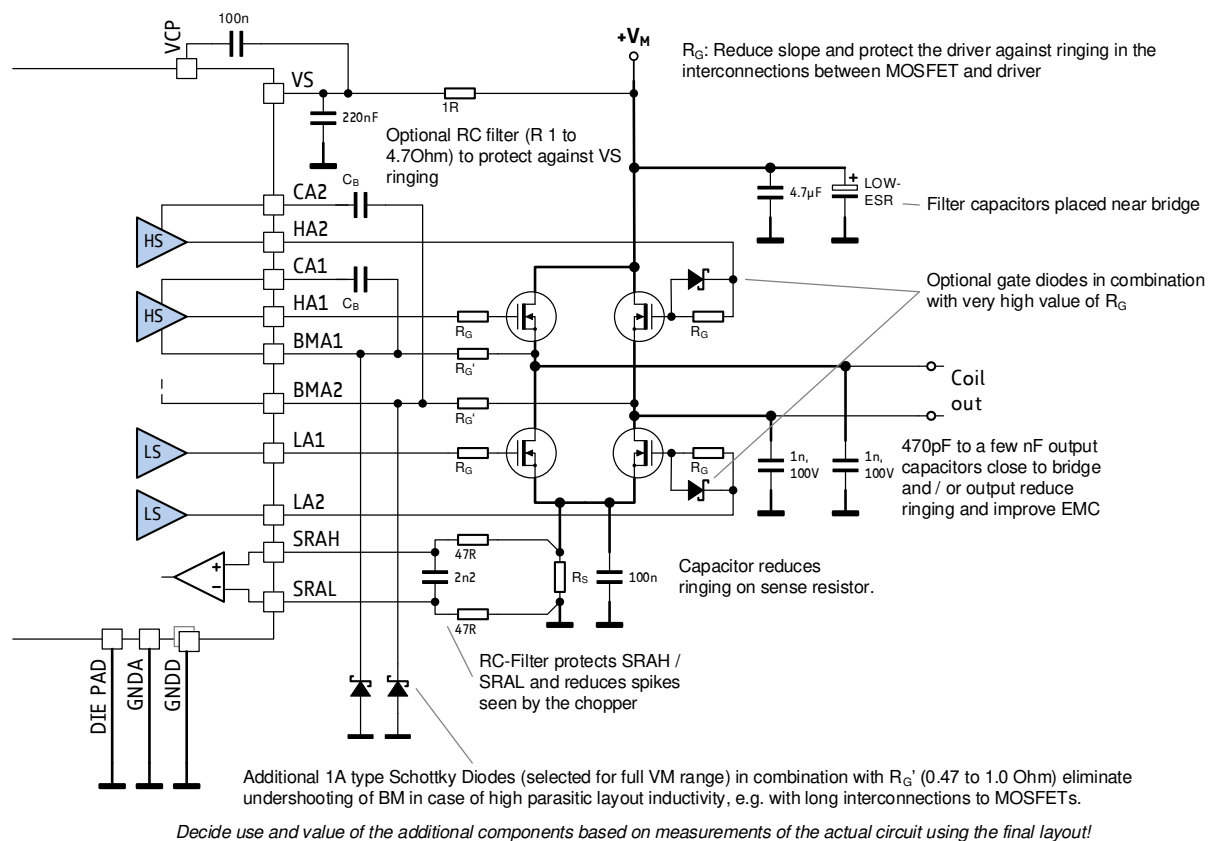
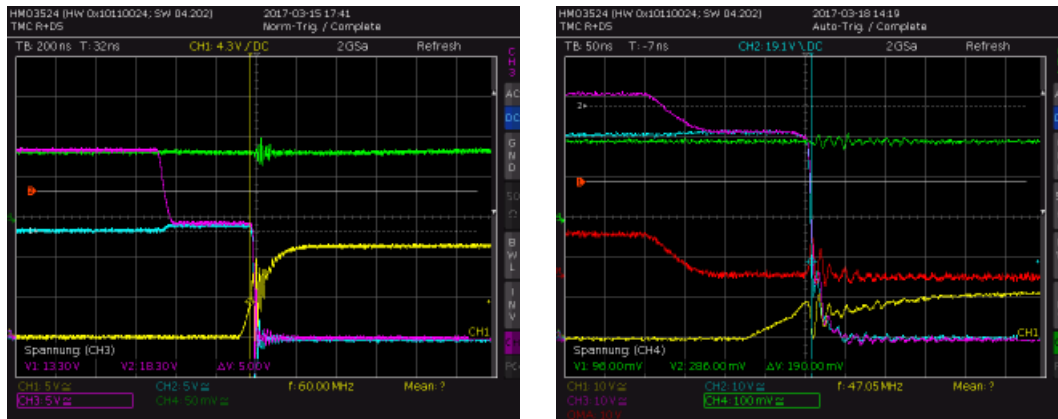
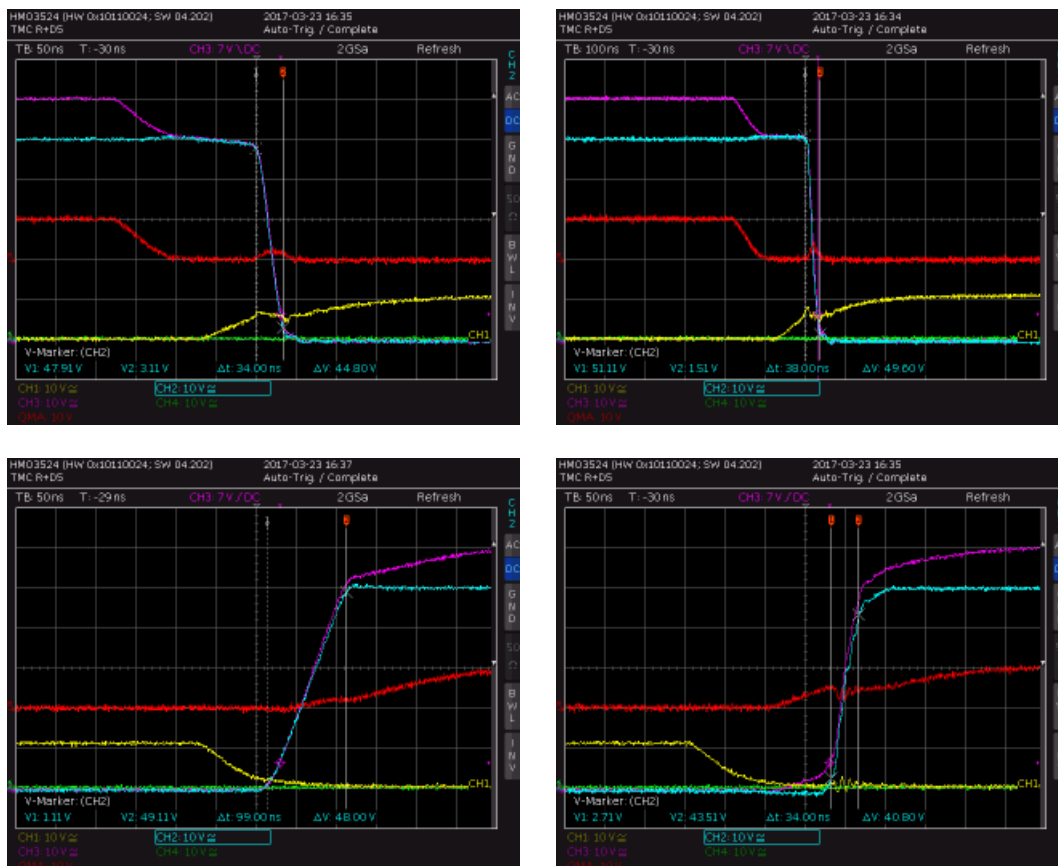
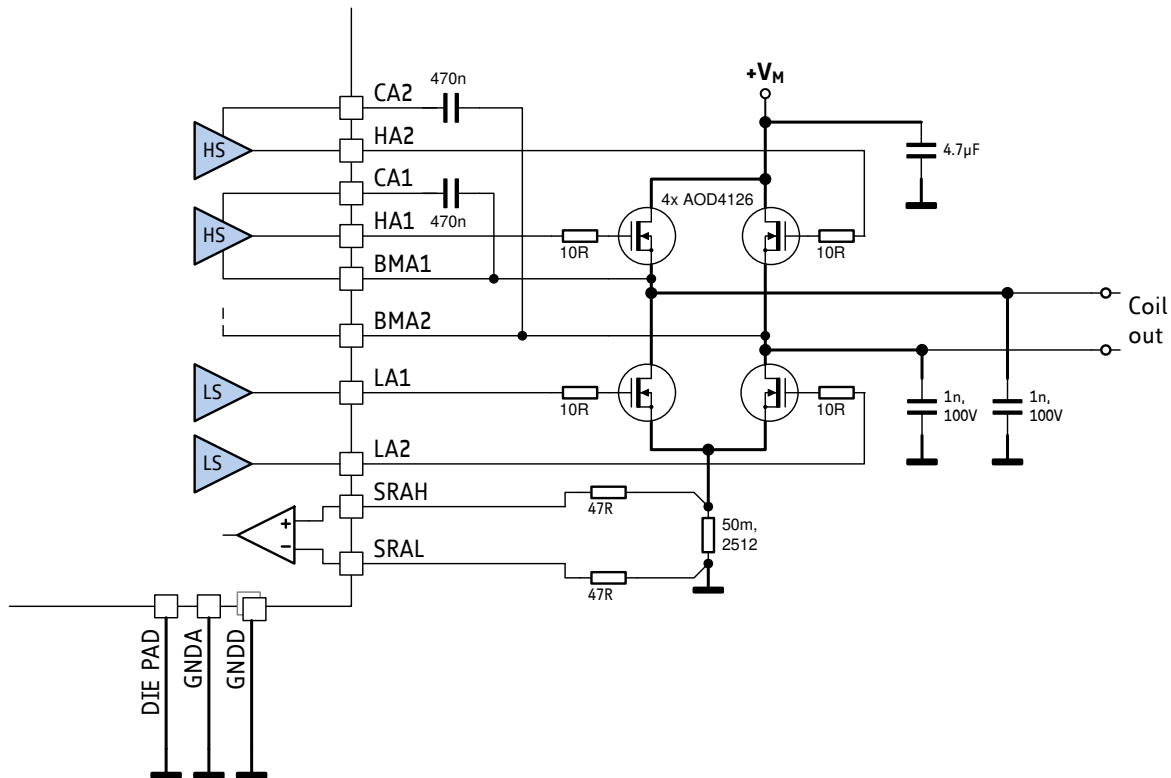

Figure 3.5 Bridge protection options for power routing inductivity
Figure 3.6 Ringing of output (blue) and Gate voltages (Yellow, Purple) with untuned bridge
Figure 3.7 Switching event with optimized components (without / after bulk diode conduction)
Figure 3.8 Example for bridge with tuned components (see scope shots)
In addition to filtering capacity near to the power bridges, provide sufficient capacity on VS located close to the VS pin and the connection of the VCP capacitor, to ensure that high-frequency ripple, caused by the switching edges of the power bridge transistors are kept well below 0.5V. An RC filter may be required (see Figure 3.5).
Stray inductance in power routing will cause ringing whenever the opposite MOSFET is in diode conduction prior to switching on a low-side or high-side MOSFET. Diode conduction occurs during break-before make time while the load current is inverse to the following bridge polarity. The MOSFET bulk diode has a certain, type specific reverse recovery time and charge. This time typically is in the range of a few 10ns. During reverse recovery time, the bulk diode will cause high current flow across the bridge. This current is taken from the power supply filter capacitors (see thick lines Figure 3.5). Once the diode opens, parasitic inductance tries to keep the current flowing. A high, fast slope results and leads to ringing in parasitic inductivities in the current path (see Figure 3.6). This may lead to bridge voltage undershooting the GND level as well as short pulses on VS and all MOSFET connections. It must be ensured, that the driver IC does not see spikes on its BM pins undershooting GND more than 5V. Severe VS ripple might overload the charge-pump circuitry. Measure the voltage directly at the driver pins to driver GND. The amount of undershooting depends on energy stored in parasitic inductivities from low side drain to low side source and via the sense resistor RS to GND.
When using relatively small MOSFETs, a soft slope control requires a high gate series resistance. This endangers safe MOSFET switch off. Add additional diodes to ensure safe MOSFET off conditions in this case (shown for right MOSFET pair in Figure 3.5).
Figure 3.7 shows performance of the basic circuit after adapting switching slope and adding 1nF bridge output capacitors.
- Add optional gate resistors close to MOSFET gate and output capacitors to ensure clean switching and reliable operation by minimizing ringing. Figure 3.5 shows the options plus some variations.
The MOSFETs have a low gate capacitance and offer roughly 50ns slope time at the lowest driver strength setting. At lowest driver strength setting, switching quality is best (Figure 3.6), but still shows a lot of ringing. Low side gate resistors have been added to slightly increase switching slope time following high-side bulk diode conduction by increasing the effect of Gate-Drain (Miller) charge. High side gate resistors have been added for symmetry. Tests showed, that 1nF output capacitors dramatically reduce ringing of the power bridge following bulk diode conduction (Figure 3.7). Figure 3.8 shows the actual components and values after optimization.